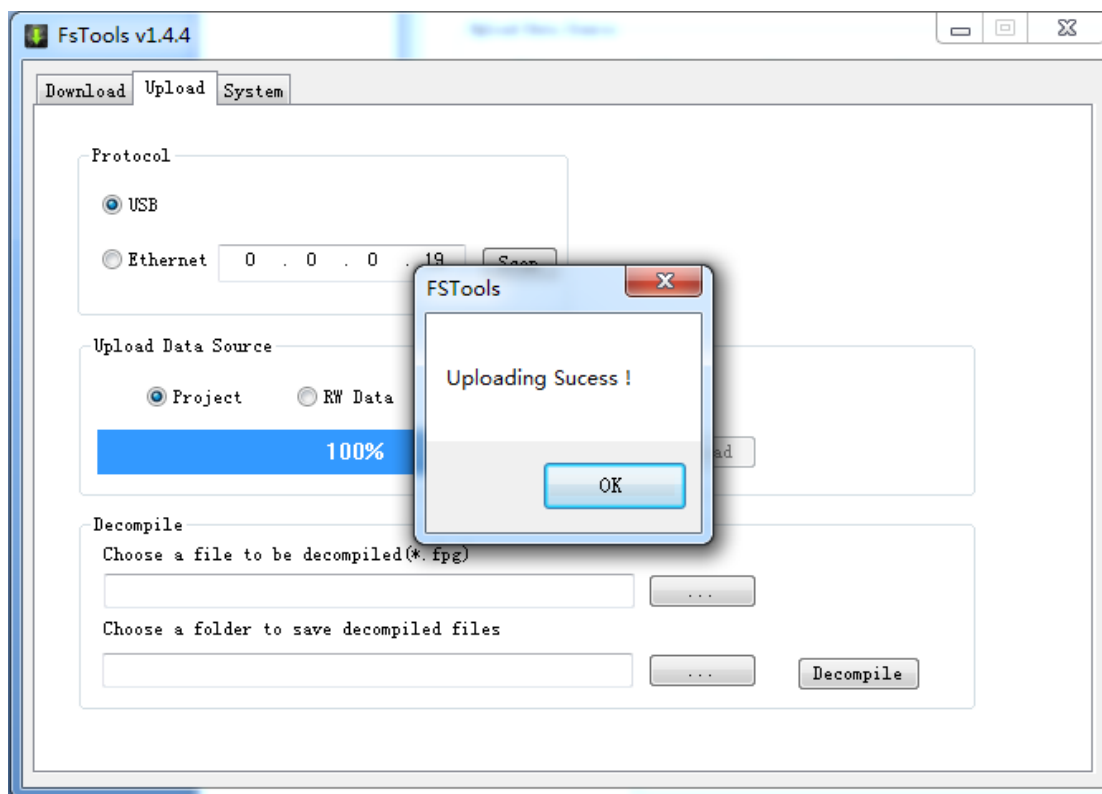

Fig. 24
③ Select the project uploading path and save the file name, and click “Save”.
④ If the screen is correctly connected to the computer, the packaging operation will be started for uploading. Select the “Project” option, and click the “Upload” button, as shown in Fig.
23. When the uploading operation is finished, the “Uploading Success!” dialog box pops up, as shown in Fig. 24. Then click the “OK” button.